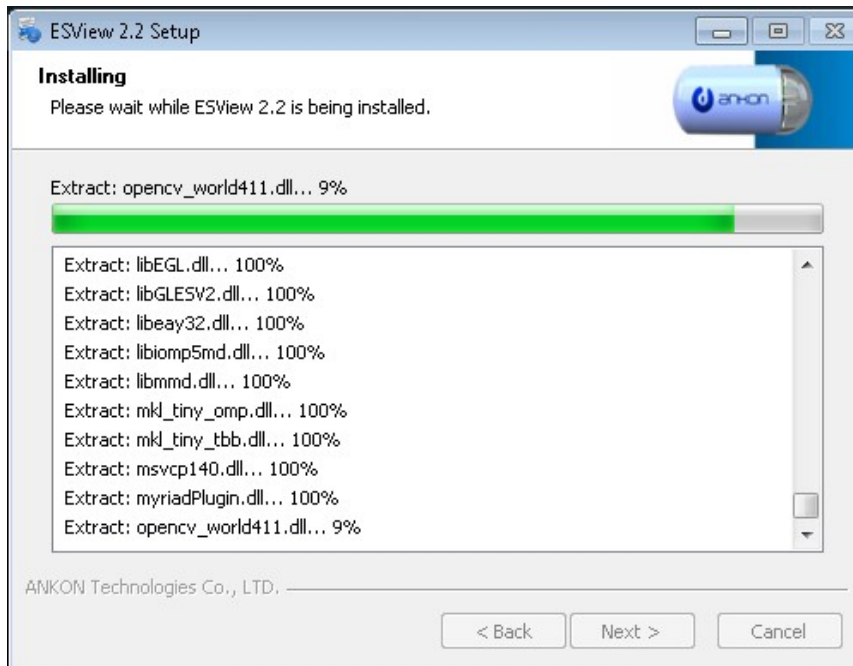

Figure 3-4: Installation Progress Dialog Box
4. The dialog box, showing the installation progress (Figure 3-4), is displayed.